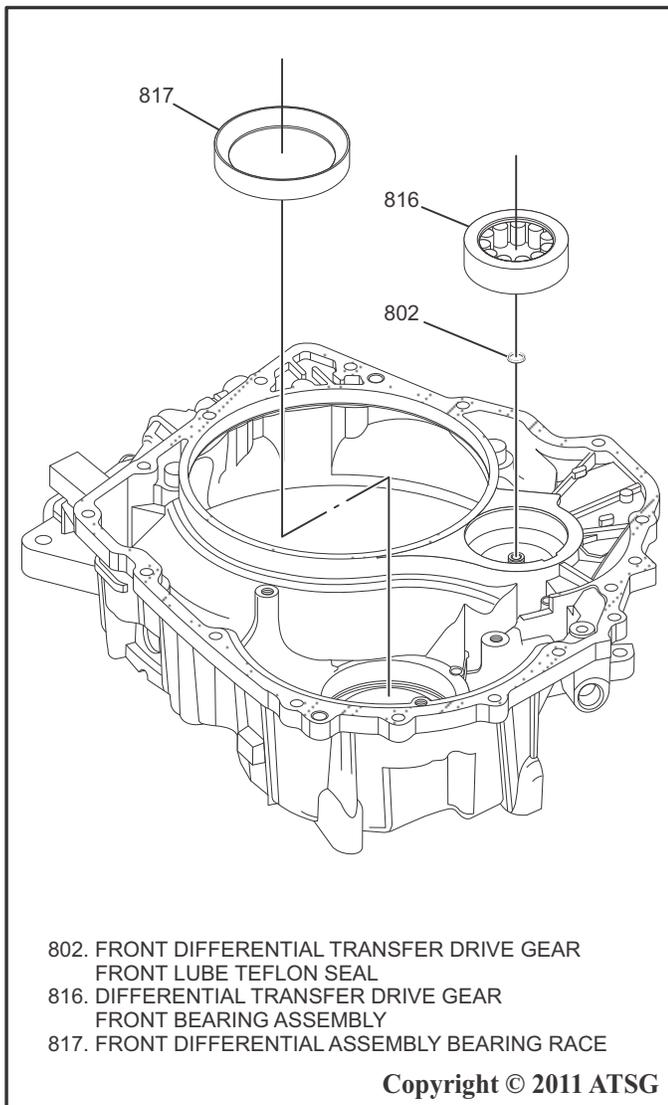

Figure 66
6. Remove the transfer drive gear front lube seal as shown in Figure 66.
7. Inspect the transfer drive gear front bearing assembly and the front differential assembly bearing race as shown in Figure 66 and replace as necessary.